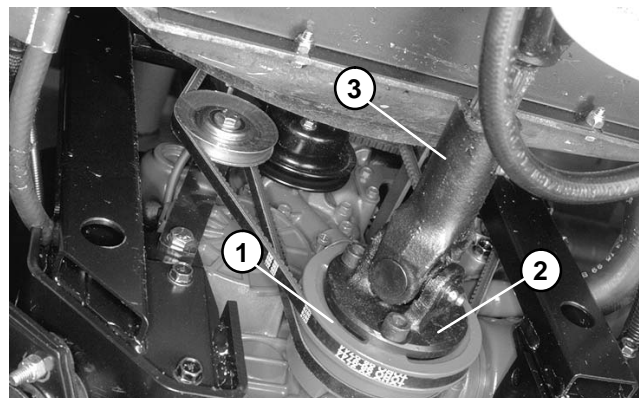

Figure 26
4. Disconnect yoke flange from the lower fan belt pulley (Fig. 26).
12. Secure yoke flange to the lower fan belt pulley with three socket head screws and lock washers (Fig. 26).